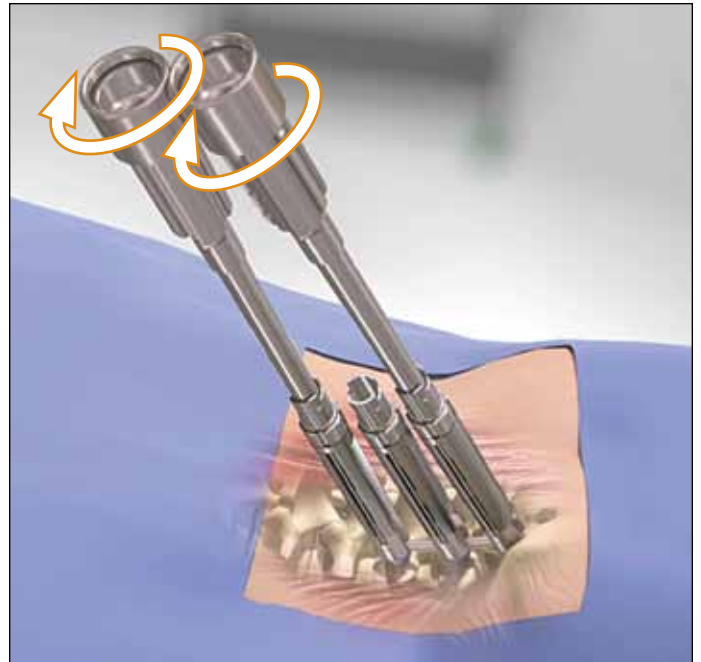

FIG. 26
- Pass the Set Screw Placer through the Screw Extension. Rotate the Set Screw Placer clockwise to seat the set screw. When the etch line on the shaft of the Set Screw Placer advances below the proximal end of the Screw Extension, the Set Screw is fully seated. (FIG. 26)